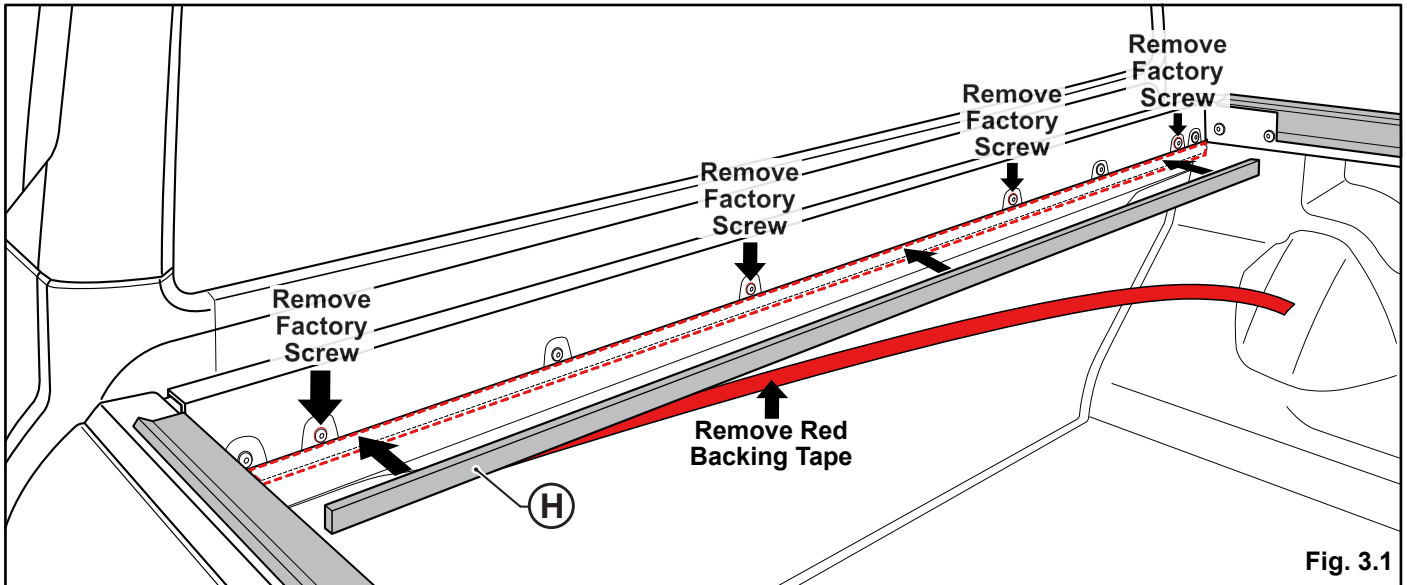

Fig. 3.1
- Wipe the dotted section shown in Fig. 3.1 with Surface Cleaning Alcohol Wipe (L).
- Remove red backing tape from the Front Rail Support (H) and stick it flush under the plastic trim as shown in Fig. 3.1
- Attach the 4 Front Rail Braces ① using the M6 Screws ② and Washers ③ to where the 4 factory screws were previously removed in Step 3, Fig. 3.1.